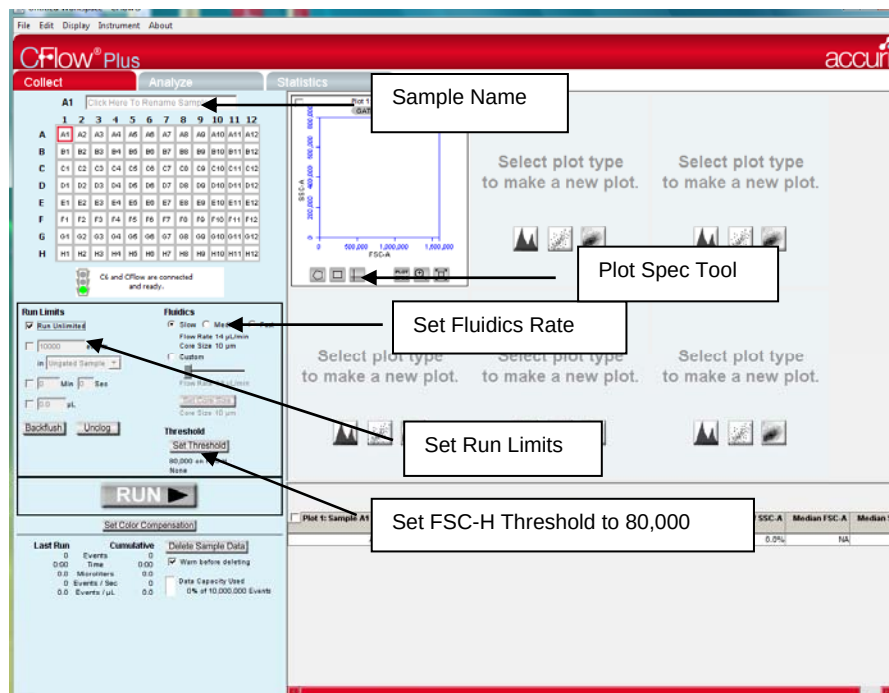
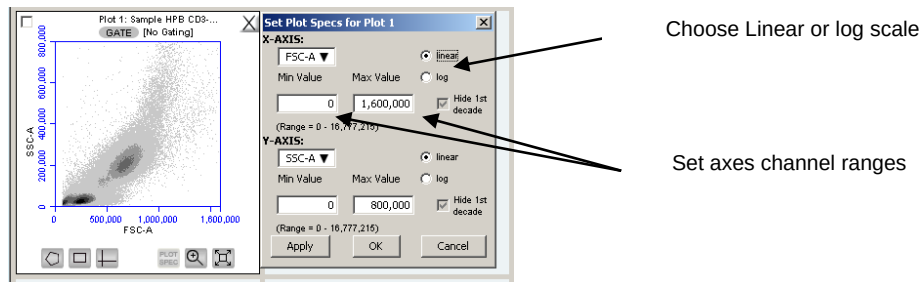

Figure 3-1 CFlow Workspace after selecting File, New CFlow File from the CFlow file menu
Figure 3-2 The Plot Spec Dialog Box. Changing these settings only affects the view of the data. No data is changed in, or lost from, the data file.
2. The Default template is shown in Figure 3-1. Note that only a density plot of linear FSC-A vs. linear SSC-A is displayed. The plot is already “zoomed” to show channels 0 to 1,600,000 on FSC-A and 0 to 800,000 on SSC-A. Click on the **Plot Spec Tool** (lower right hand corner of Plot) to change the axes channel range, or to view axes on a logarithmic scale (Figure 3-2).